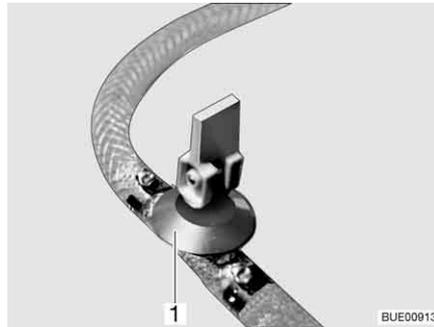
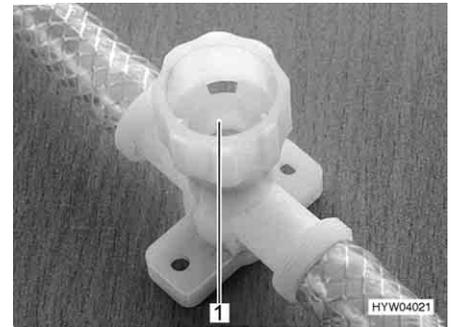

Fig. 141 Drain cock (with rocking lever)
Fig. 142 Drain cock (with twist cap)
- Close all drain cocks. To do this, position the drain cock's rocking lever (Fig. 141,1) horizontally or turn the drain cock's cap (Fig. 142,1) in a clockwise direction.